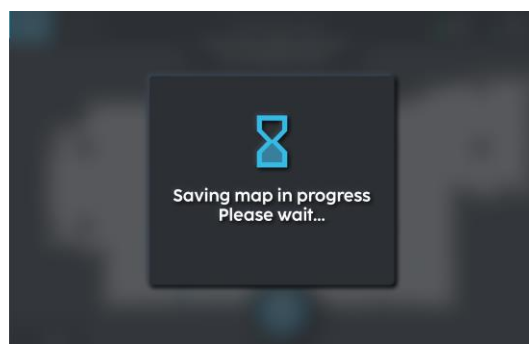

FIGURE 5-16
3. Once path is closed, press 'SAVE MAP', and map is saved (Fig. 5-16).